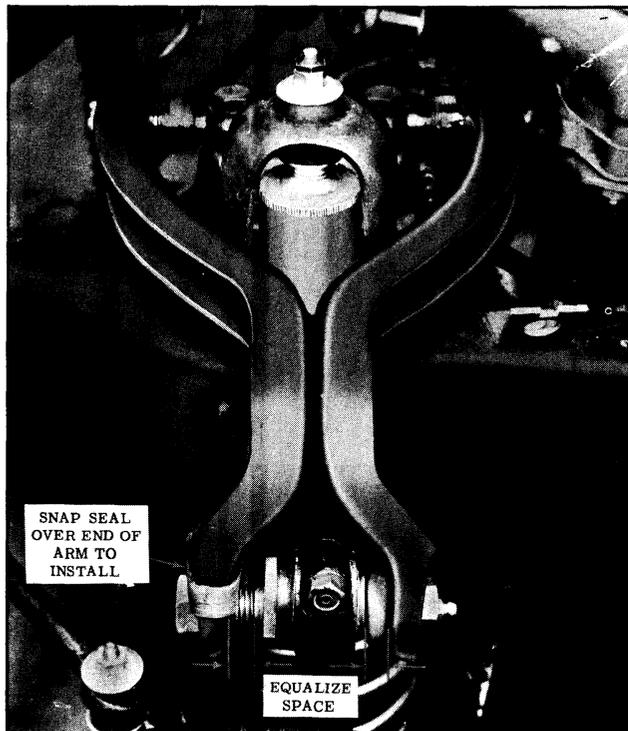

Fig. 4-7 Upper Pivot Assembly
6. Using a heavy wire hooked tool, snap rubber seals over end of control arm and into place on pivot pin. (See Fig. 4-7)